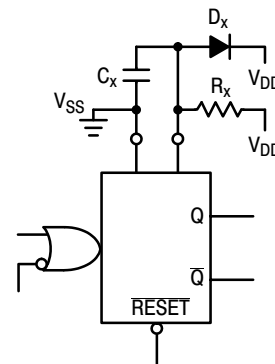

Figure 11. Use of a Diode to Limit Power Down Current Surge
5. If $C_X > 15$ μ F, use discharge protection diode per Fig. 11.
When a more rapid decrease of V_{DD} to zero volts occurs, the MC14538B can sustain damage. To avoid this possibility use an external clamping diode, D_X , connected as shown in Fig. 11.